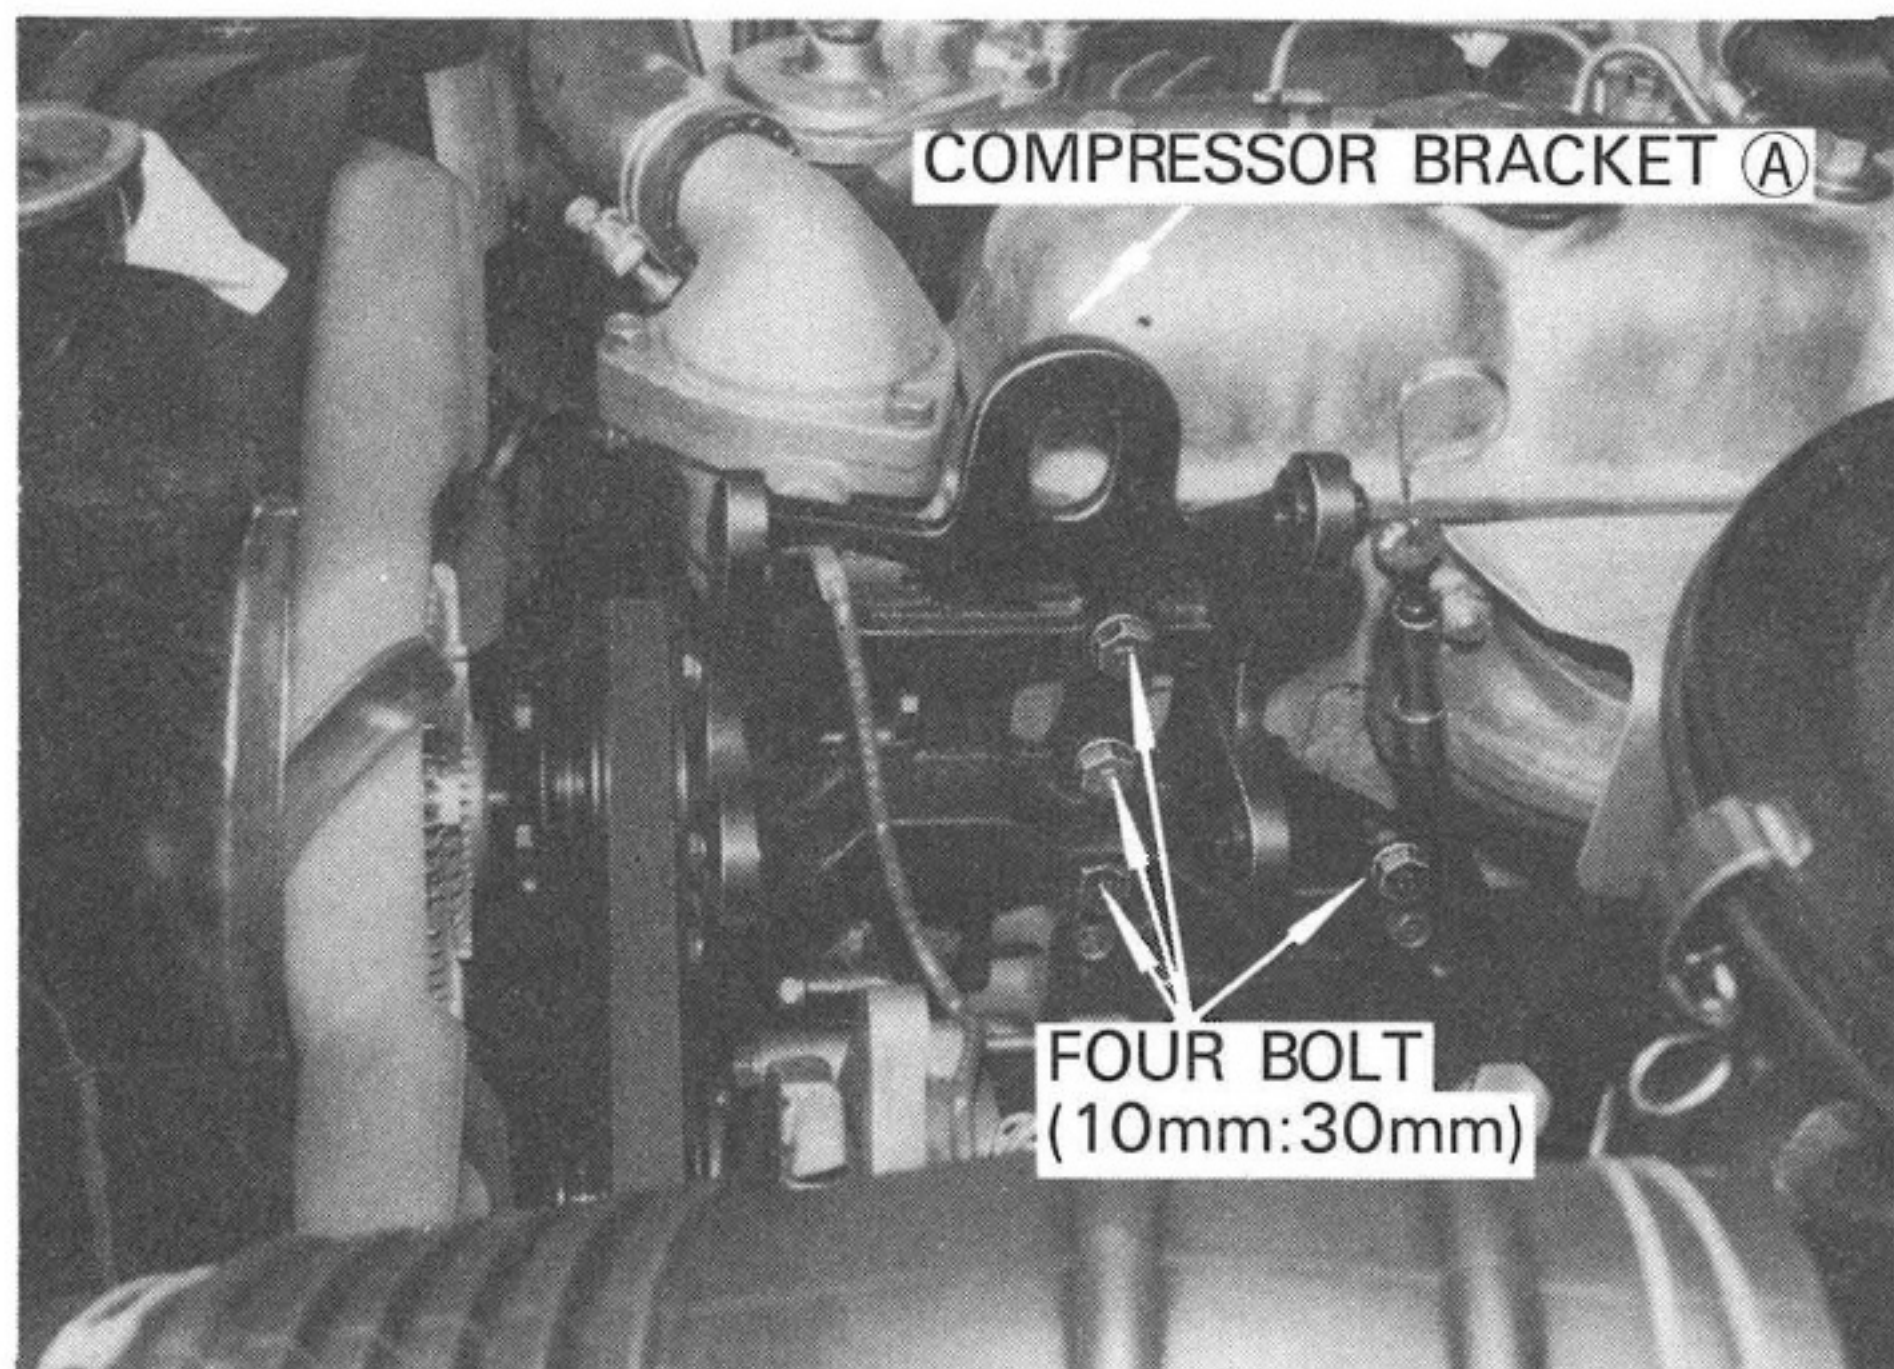
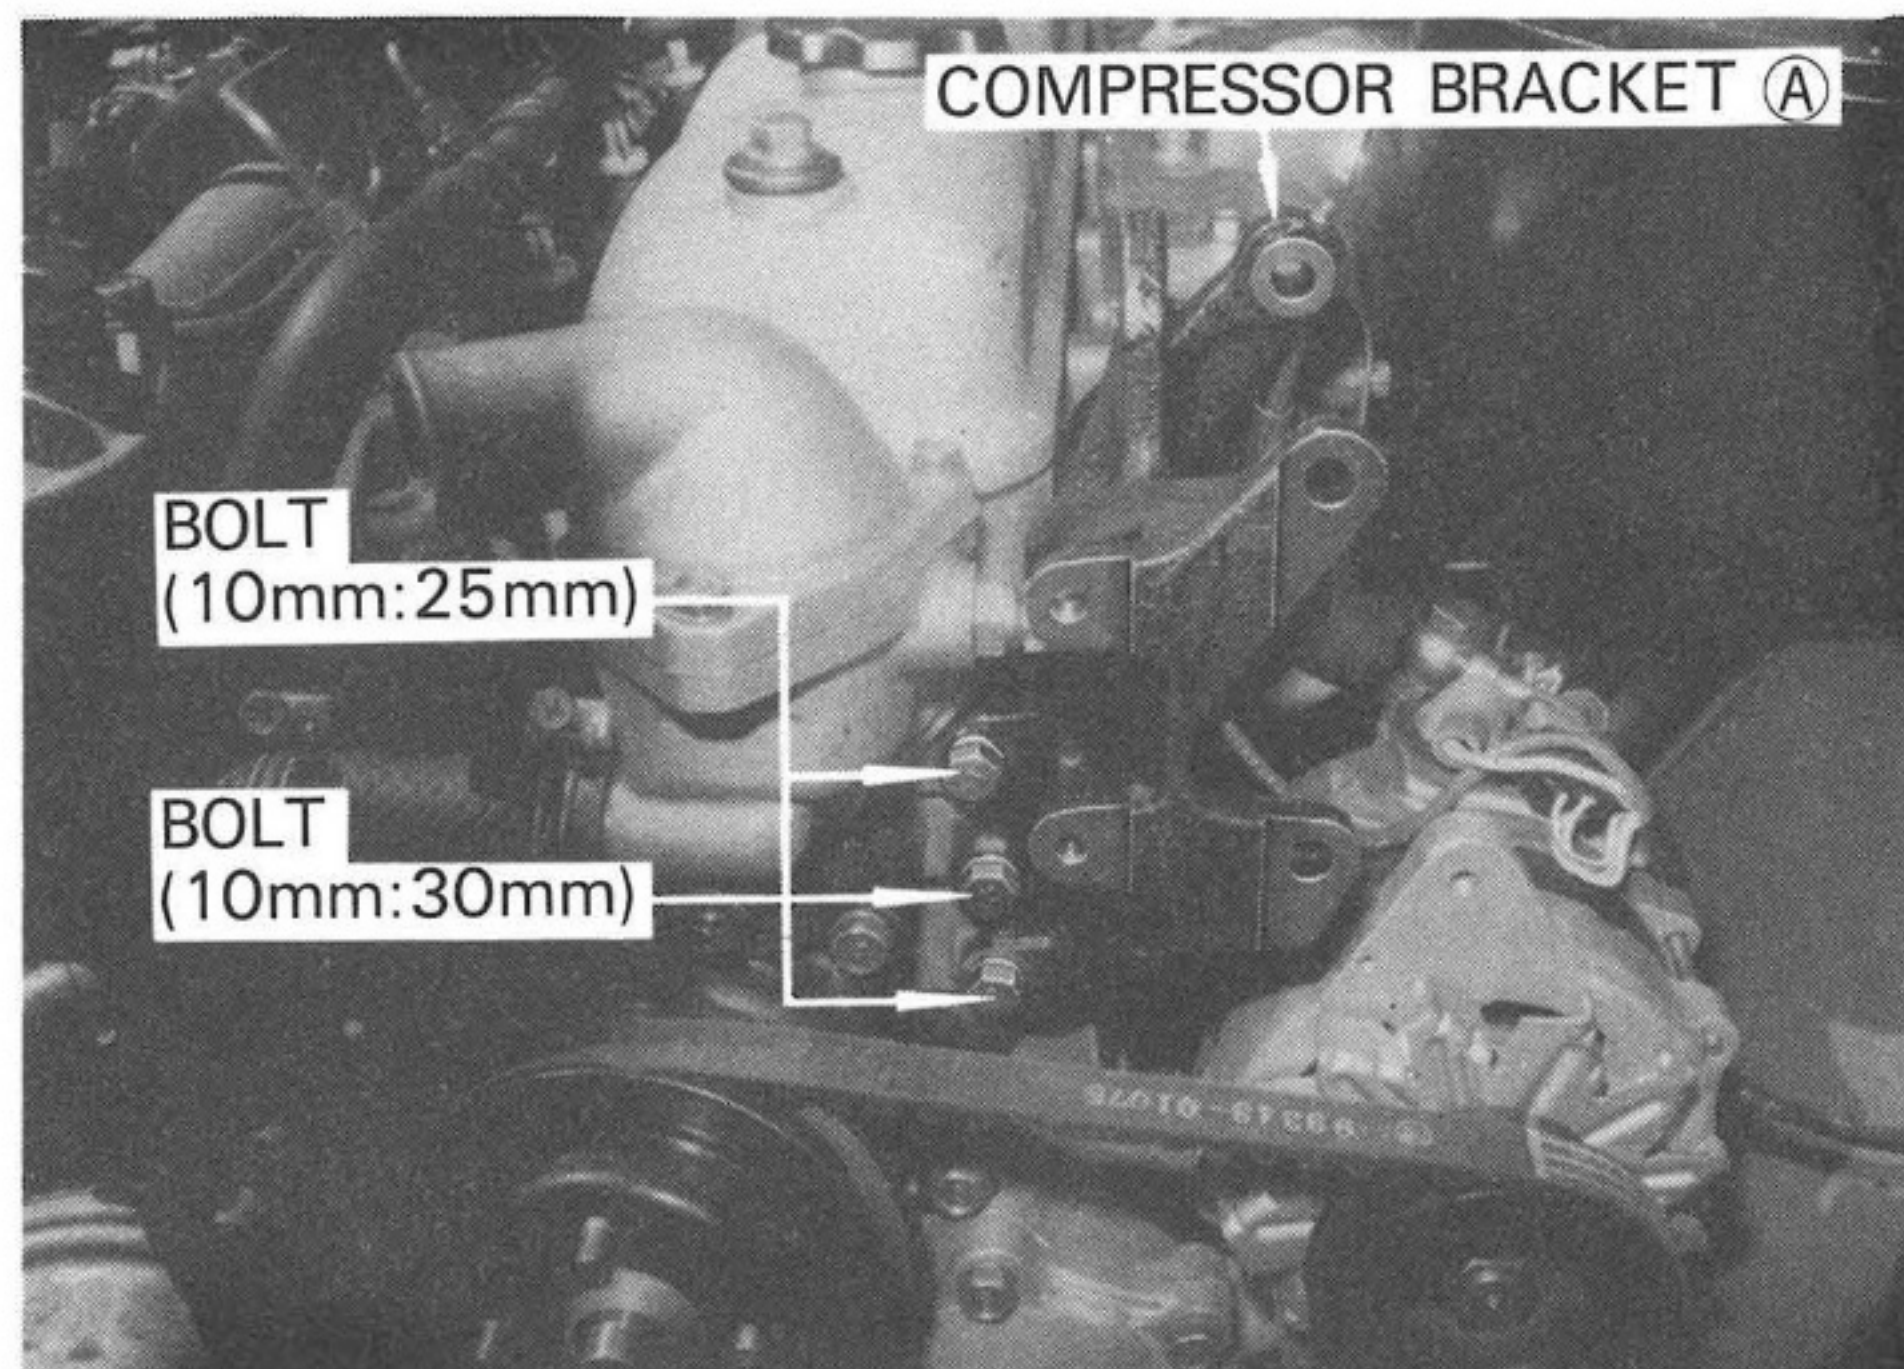

Fig. 2-3
Fig. 2-4
- A) Install compressor bracket (A) to the engine using seven bolts. (10 mm : 30 mm) 5 pcs, (10 mm : 25 mm) 2 pcs). See Fig. 2-3 and Fig. 2-4.